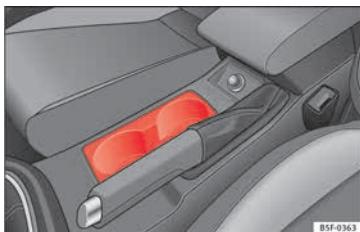

Fig. 154 Centre console: front drink holders.
- Place drinks in the holder »» **Fig. 154**. Placement of two drinks is possible. There is also the possibility of placing larger plastic bottles in the trims of the doors.